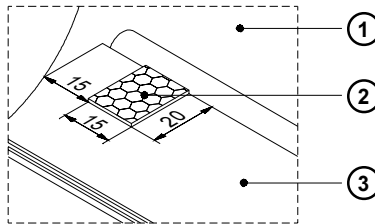

Fig. 14h Placing the reflective foil
2. Attach the sensor holder (7) with the warning sensor ribbon end (8) using the screws (6) to the mounting plate.
3. Plug the cable (9). For that **Hermes 4** has a 3-pin connector at the rear side of the frame. The connector (10) at **Hermes 5** is beside the control panel.
4. The contents of delivery include a reflective foil (2). Remove the covering foil from the glued surface and stick the reflective foil (2) onto the bracket (3) below the ribbon hubs as shown in fig.14h. Make sure that the distance between the reflective foil and the mounting plate (1) is about 0.6in (15mm).